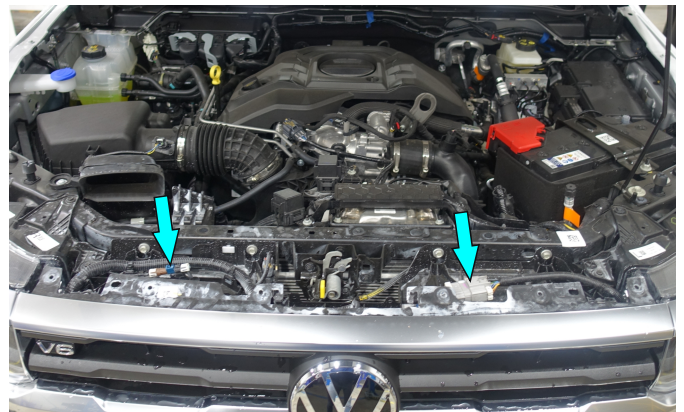

Fig.4
4. Disconnect factory wiring (fig.4).